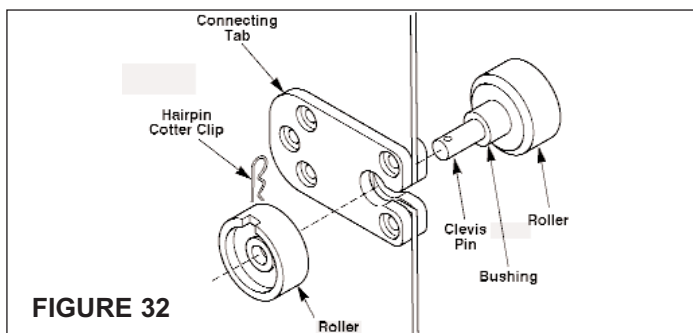

FIGURE 32
3. Remove the hairpin cotter clip and remove one roller from the curtain roller assembly, Figure 32.